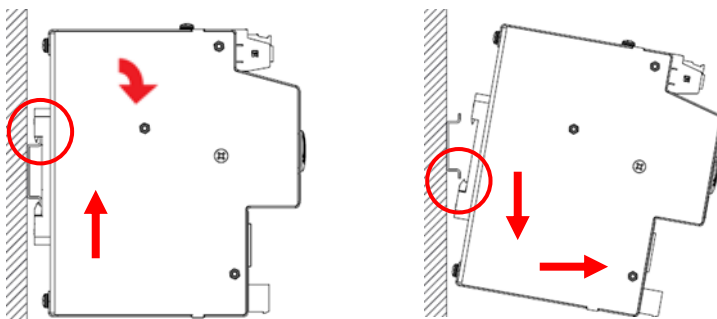

Figure 3. Demounting Unit from DIN Rail
1. Push up and pivot the top of the unit away from the rail as illustrated in the first drawing of Figure 3.
2. When the top hook is detached, slightly lower the unit to disengage the spring-loaded clip and pull the unit away from the rail as illustrated in the second drawing of Figure 3.